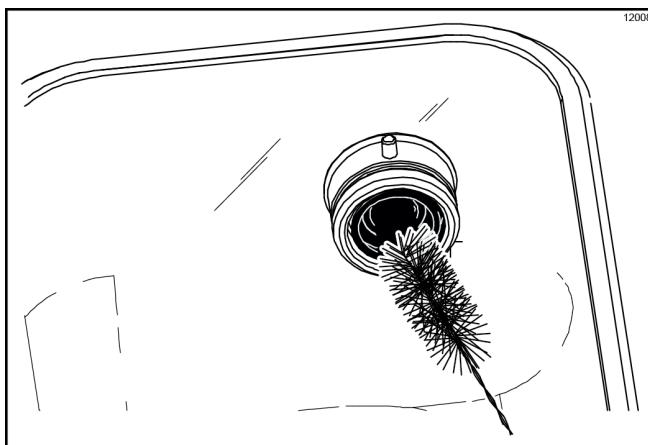

Figure-109
5. Using the black brush, clean the drive hub openings in the rear wall of the mix hoppers. (See Figure-109.)